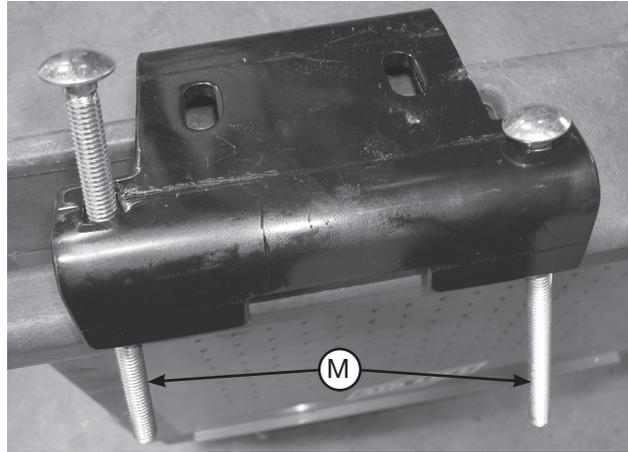

fig. 10
4. Insert two 3/8"-13 x 6" carriage bolts (M) through the lower bracket (Fig. 10). Assemble the lower bracket onto the air spring assembly so the carriage bolts are on the opposite side of the fittings (Fig. 11). Leave them loose at this time. Attach the lower bracket to the air spring assembly with two 3/8"-24 x 7/8" hex cap screws (I), two 3/8" lock washers (J) and two 3/8" flat washers (K) (Fig. 12). Leave them loose at this time.